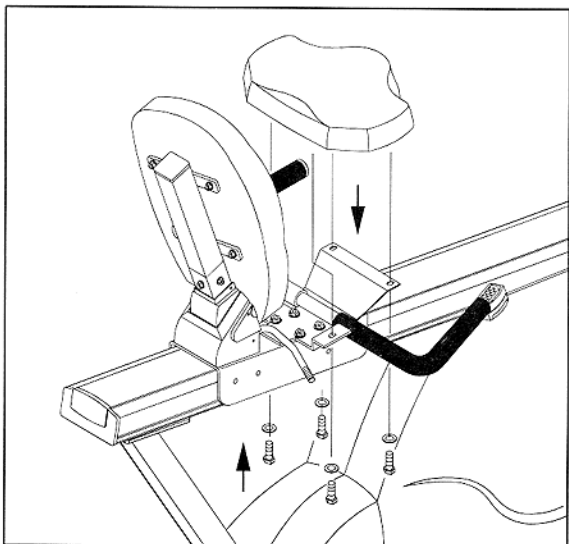

Fig.8
10. Attach the seat base onto the handlebar mounting plate, using the bolts and washers provided. Insert the bolts from underneath the seat two in back and two in front, through the handlebar mounting plate. Tighten the bolts securely (see Fig.8).